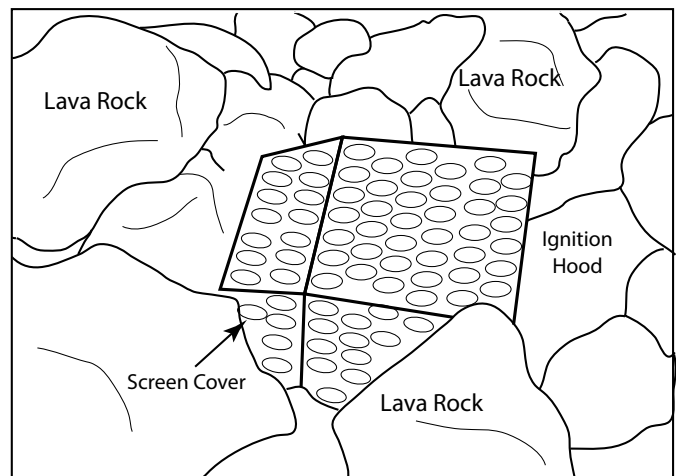

Fig. 10 Keep screen cover exposed
**IMPORTANT:** Do not place media directly on top or under the screen cover. The screen must be free of any debris to ensure proper lighting of burner and good flame sense (See Fig. 10).